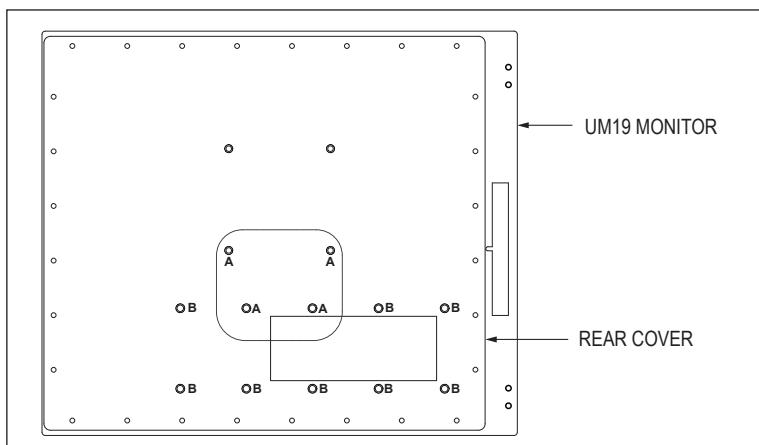

FIGURE 2
3. Prior to installing the fixed pedestal cover plate onto the rear of the monitor, remove and discard the four screws and washers from the locations marked "A" in Figure 2.
4. Remove and set aside (do not discard) the eight screws and washers from the locations marked "B" in Figure 2.